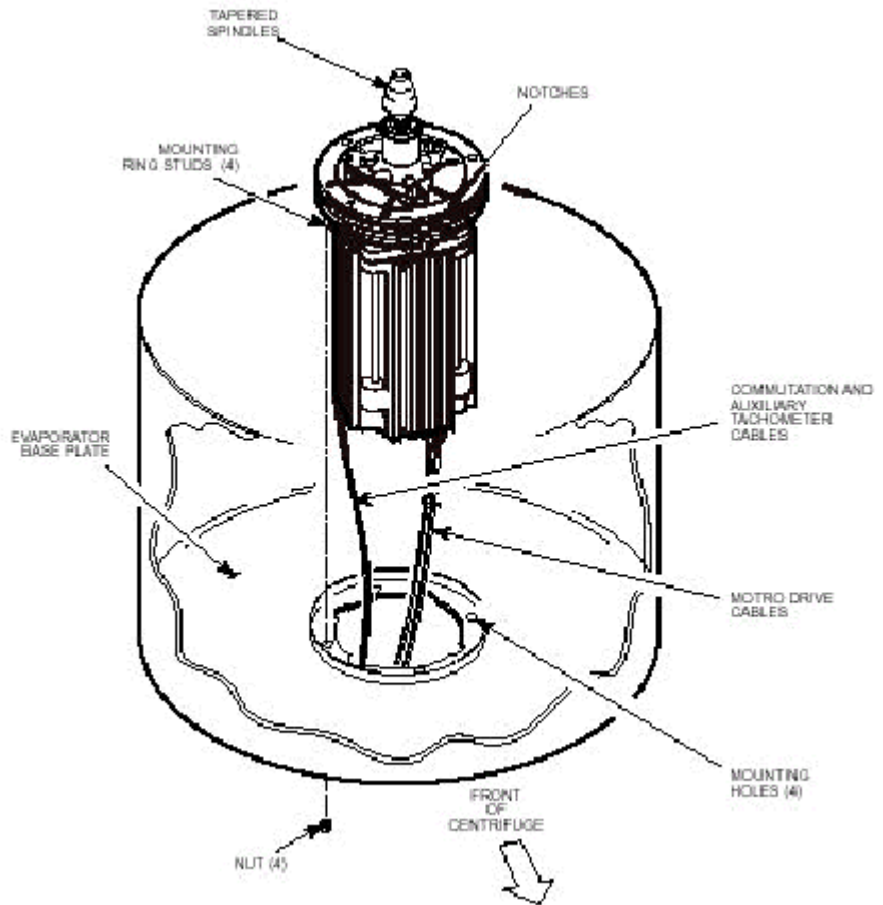

Figure 7
4. Using the tapered spindle as a handle, orient the motor/gyro assembly so that the two notches in the outside edge of the gyro assembly face toward the front of the centrifuge. Lower the motor/gyro assembly into its correct position (being careful not to pinch the sensor wires) so that the four studs in the mounting ring engage the four holes in the evaporator baseplate (see figure 7).